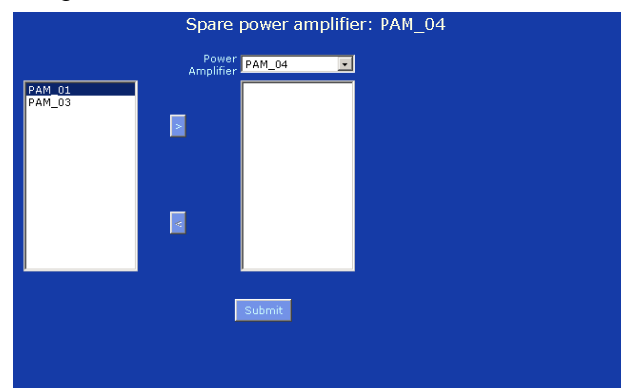

figure 36.17: Sparing, step 2
- 2 Select the spare amplifier to which the main amplifier must be assigned from the *Power Amplifier* dropdown list. For example, *PAM_04* (see figure 36.17).